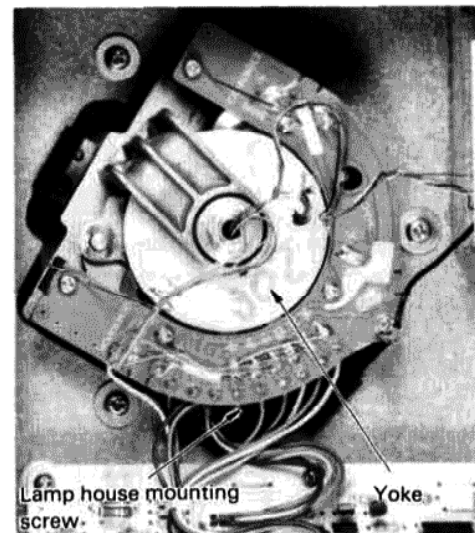

Fig. 28
■ Removal of lamp house ass'y (Fig. 28)